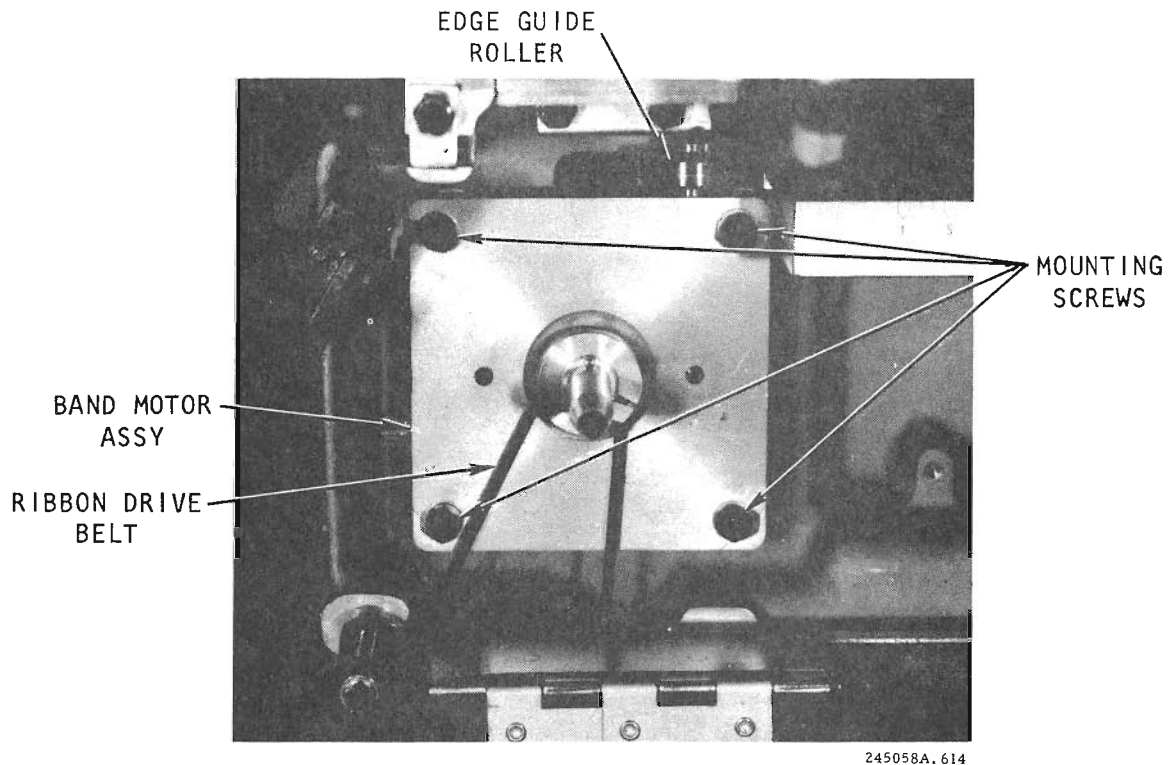

Figure 6-14. Band Motor Assembly
- e. Remove the four band motor mounting screws (see figure 6-14) and ribbon drive belt.
- b. Install the motor assembly as illustrated in figure 6-14. Feed the power cable through and connect to the Power Board (see figure 9-2).